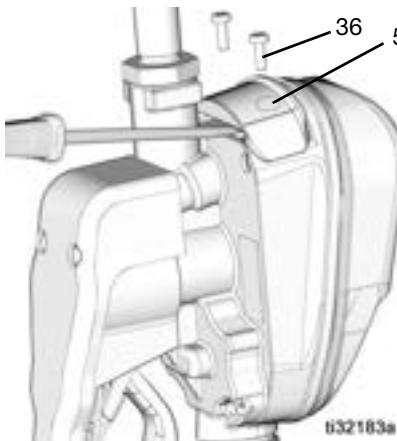

FIG. 47
- Remove screws (36) from the battery compartment cover (5).
- Use a small, flat screwdriver to gently pry the cover away from the metered dispense valve housing on the bottom side of the cover, near the extension attachment as shown in FIG. 47.